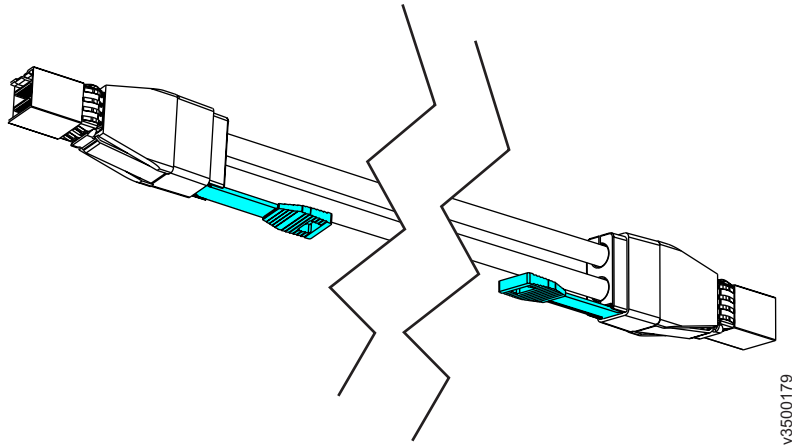

Figure 33. Mini SAS HD to Mini SAS HD cable
- Mini SAS HD to Mini SAS HD (Figure 33 on page 43)